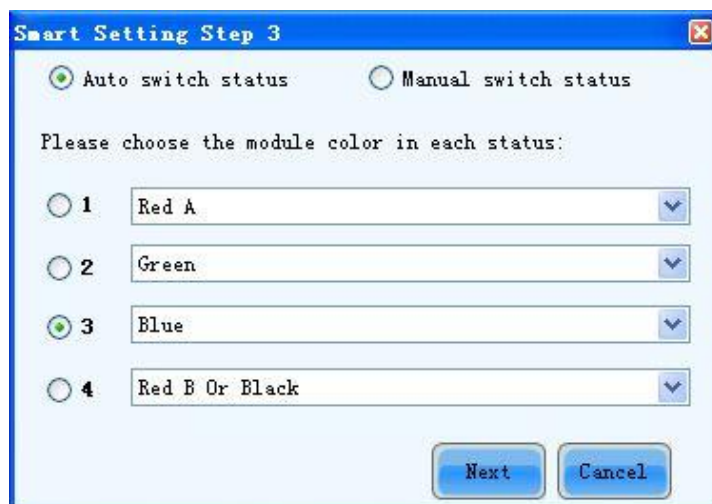

Fig. 7-7 Smart Setting Step 3
- 5) Click "Next" in "Smart Setting Step 2" page to enter " Smart Setting Step 3" page as shown in Fig. 7-7,